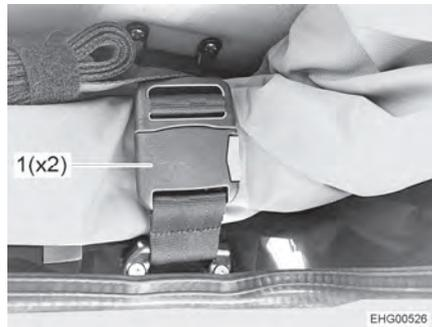

Fig. 55 Belt lock
- Open both belt locks (Fig. 55,1).